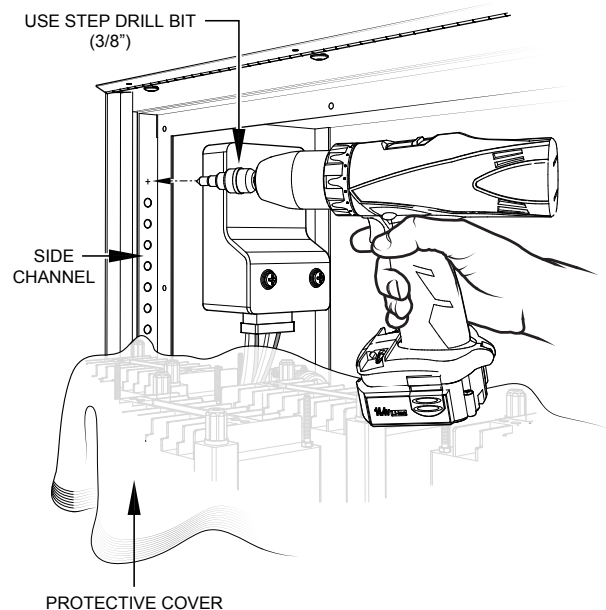

Figure 6. Drilling Ventilation Holes
3. Place protective covering (Figure 6) over the control panel's exposed electronic components. This will protect the components from drill shavings.
4. Using a step drill bit, drill eight, 3/8-inch diameter holes as shown in Figure 6.